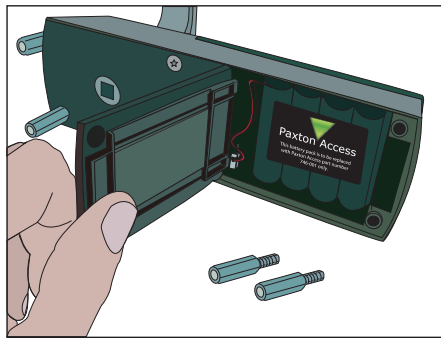

Fig 2
3. Remove the access plate to reveal the battery pack. - Fig 2.